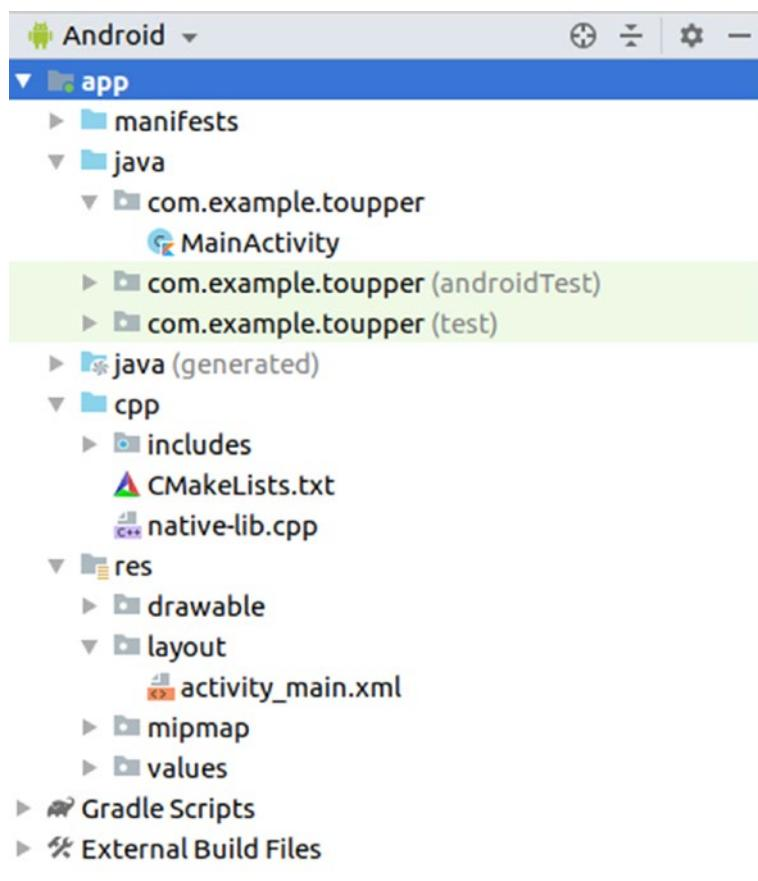

Figure 10-3. Some of the files created by the wizard
4. Click the “Next” button and accept the defaults on the third screen by clicking “Finish.” This creates an Android application with the main code generated in Kotlin and a single view as the UI. The project contains a C++ file which returns a hard-coded string to display in the UI. We can now build and run our app to ensure everything is installed and working correctly. Figure 10-3 shows the important files that were created.